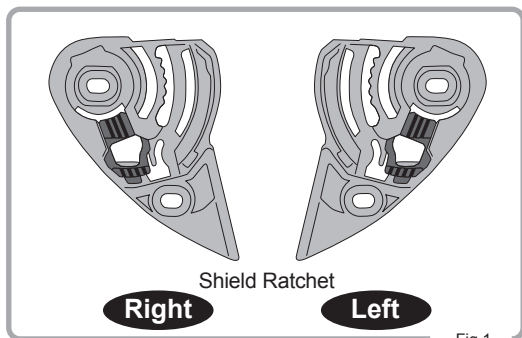

Fig.1
1. Check the side of the Shield Ratchet (Fig.1)